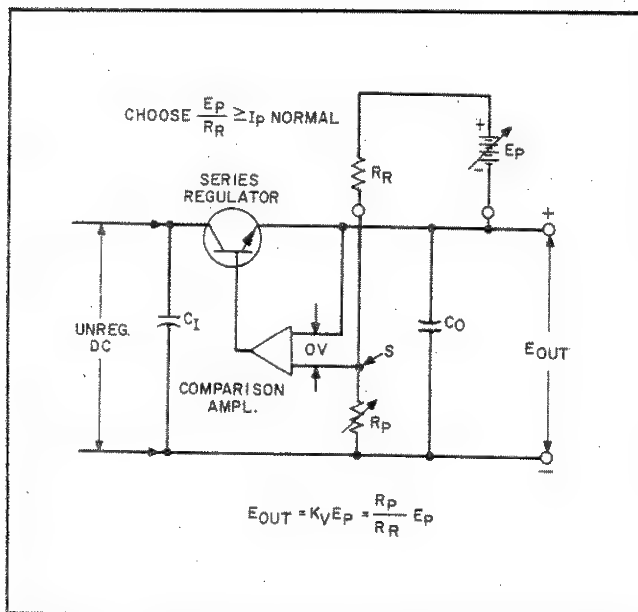

Figure 3-4. Voltage Programming with Variable Voltage Gain
3-39 Figure 3-4 illustrates the method by which a power supply's constant voltage output can be programmed using an external voltage with a voltage gain dependent upon the ratio of  $R_P$  to  $R_R$ . Note that this method is no different from the circuit normally used for constant voltage control of the output except that an external reference (the programming voltage source) has been substituted for the internal reference. On most supplies, external terminals are available so that the connections shown in Figure 3-4 can be accomplished without any internal wiring changes. In all HP remotely programmable power supplies, the summing point S is made available, and the configuration of Figure 3-4 can always be accomplished using the external programming voltage source  $E_P$  and external precision wire-wound resistors  $R_P$  and  $R_R$ . ( $R_R$  should not exceed 10k.) As indicated by the equation in Figure 3-4,  $R_P$  can be selected so that the resulting voltage gain is either less or greater than unity. It is possible to use the front panel control on the supply as the voltage gain control  $R_P$ .
3-40 **Constant Voltage.** Figure 3-5 illustrates the connections required for the 59501B to program the constant voltage (CV) output of a typical HP power supply. Note the similarities between Figures 3-4 and 3-5. The 59501B includes  $R_R$  (R76),  $R_P$  (COARSE and FINE POWER SUPPLY FULL SCALE ADJUST), and  $E_P$  (59501B output between terminals A1 and A2). The extra resistor (R77) between terminals A5 and A6 is used only when programming power supplies above 300 volts.